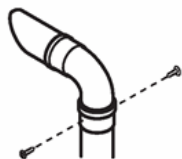

Fig. 21m
14. Fit the 93° elbow/plume outlet and secure with the two remaining screws supplied. Ensure the plume outlet is at least 45° to the wall and that the 'peak' is uppermost (Fig. 21m).